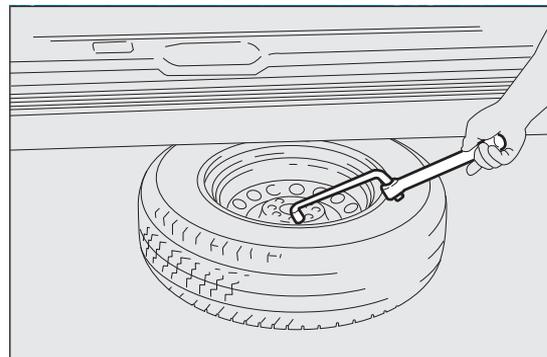

fig. 173
- use the wheel dismantling spanner to remove the wheel from the vehicle fig. 173;